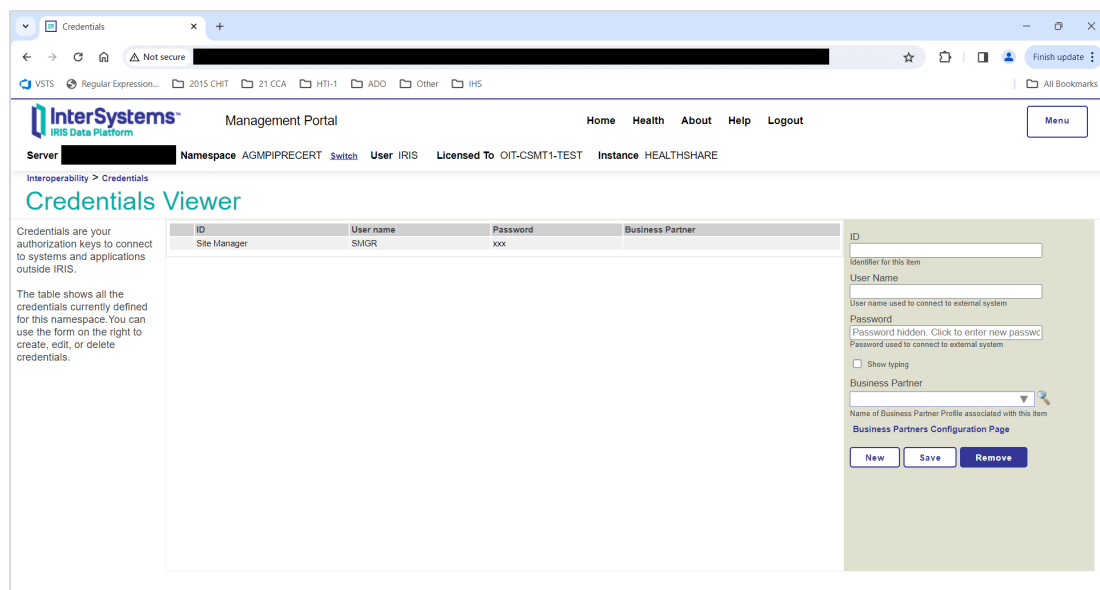

Figure 5-29: Newly created credential in the **Credentials** page
6. Click **Save**. The top pane will display the newly created ID and username, as shown in Figure 5-29.